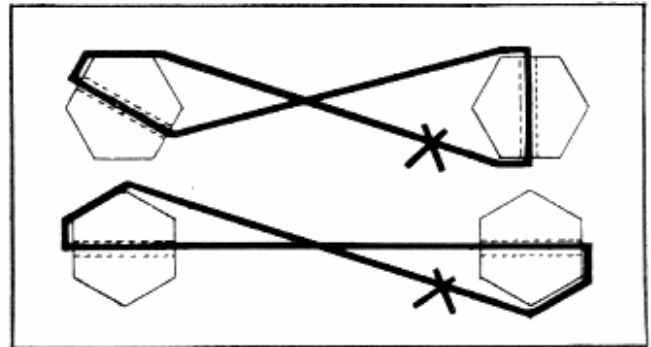

Fig. 11—Locking Mounting Cap Screws
3. Adjust each cap screw to 30-35 ft. lbs. tension. Use firm pressure on an 8" wrench where the body design does not allow sufficient room to use a tension wrench. Lock the upper pair of cap screws together, using No. 14 gauge wire. Route the lock wire through the heads of the cap screws, as shown in Fig. 11, so that if either cap screw tends to back off it tightens the other. Lock the lower pair of cap screws in the same manner.